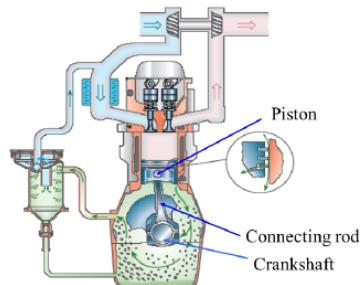

Figure 1.2
- Figure 1.2 - The mostly used mechanism is composed of a **piston** connected to a **crank-shaft** via a **connecting rod**. The crankshaft converts the reciprocating movement into a rotating one.